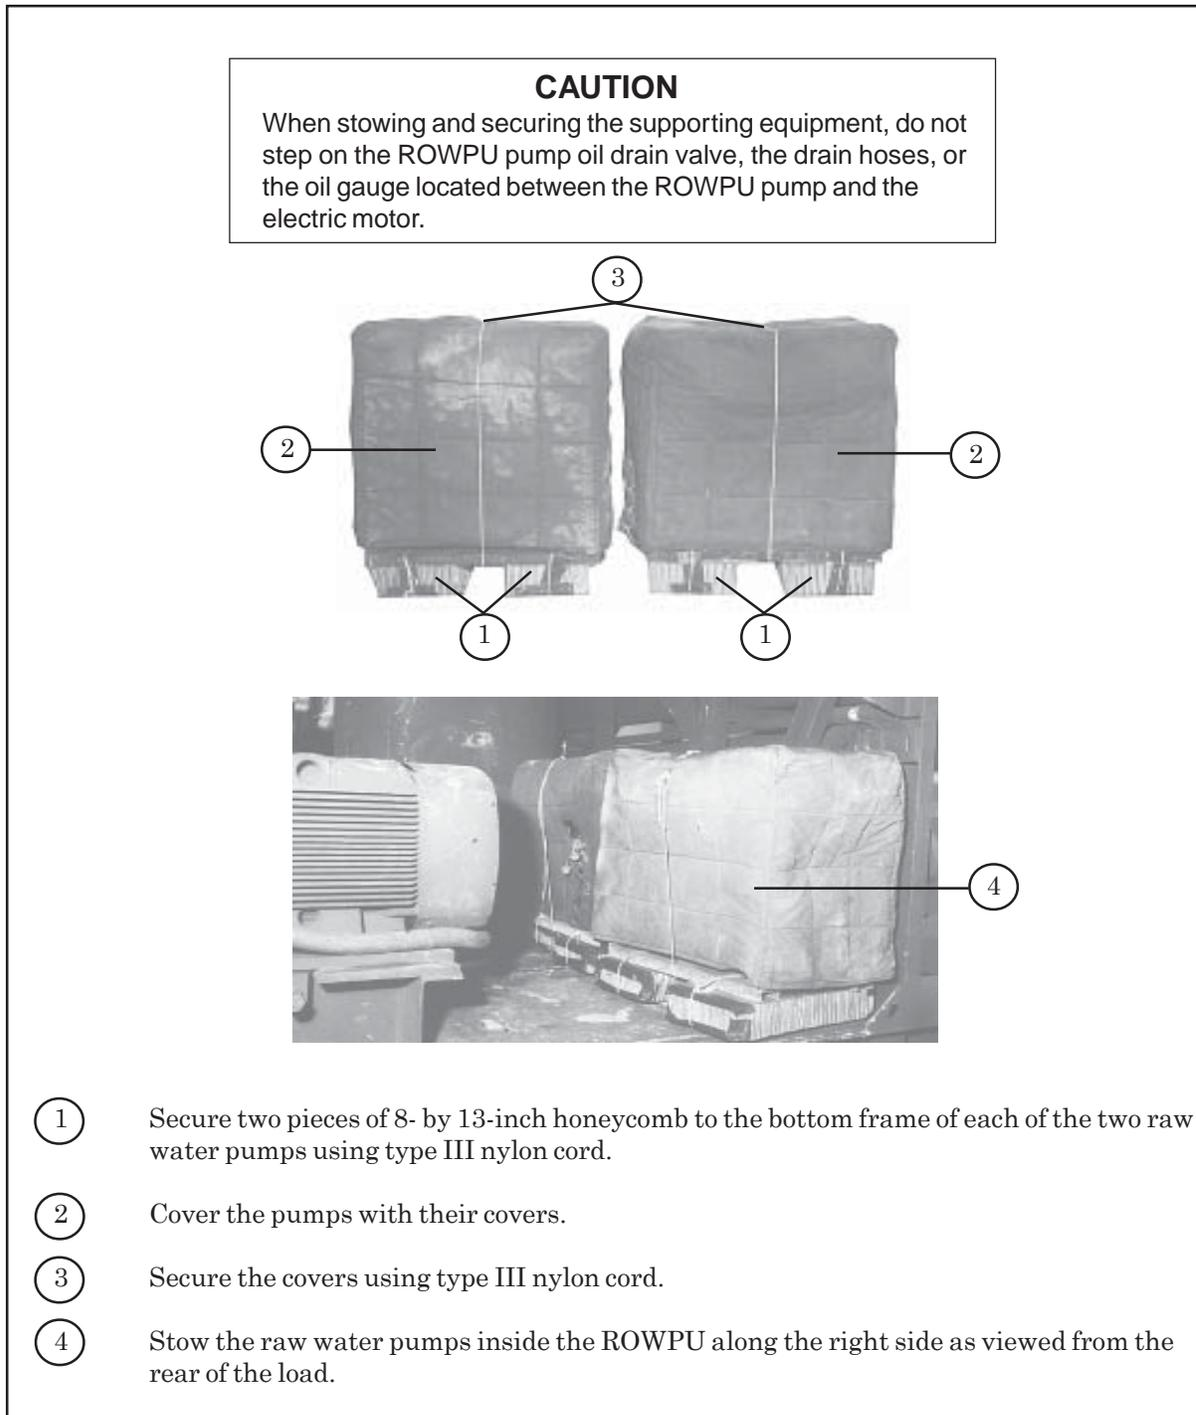

Figure 1-15. Raw Water Pumps Prepared and Stowed
- k. Prepare and stow the raw water pumps on the ROWPU as shown in Figure 1-15.